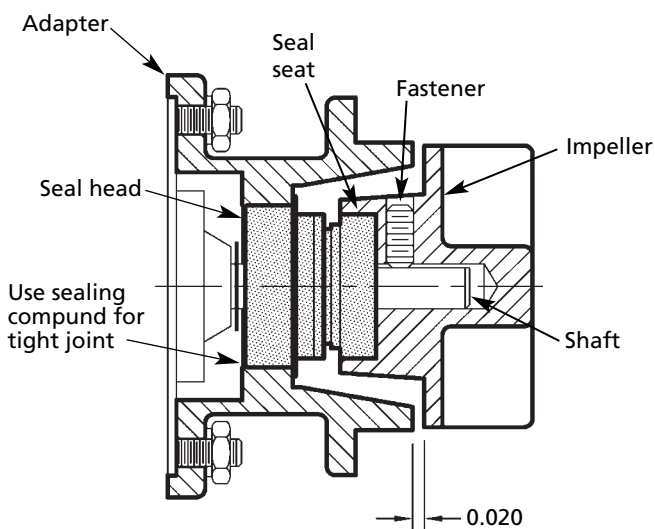

Figure 3
Refer to Figures 3, and 4
9. Press seal seat squarely into cavity in impeller (See Figure 3). If seal seat does not press squarely into cavity, it can be adjusted in place by pushing on it with a piece of pipe. Always use a piece of cardboard between pipe and seal seat to avoid scratching face of seal seat. This is a lapped surface and must be handled very carefully.
12. Replace impeller providing 0.020" clearance between adapter and impeller (see figure 3), then tighten impeller fastener.